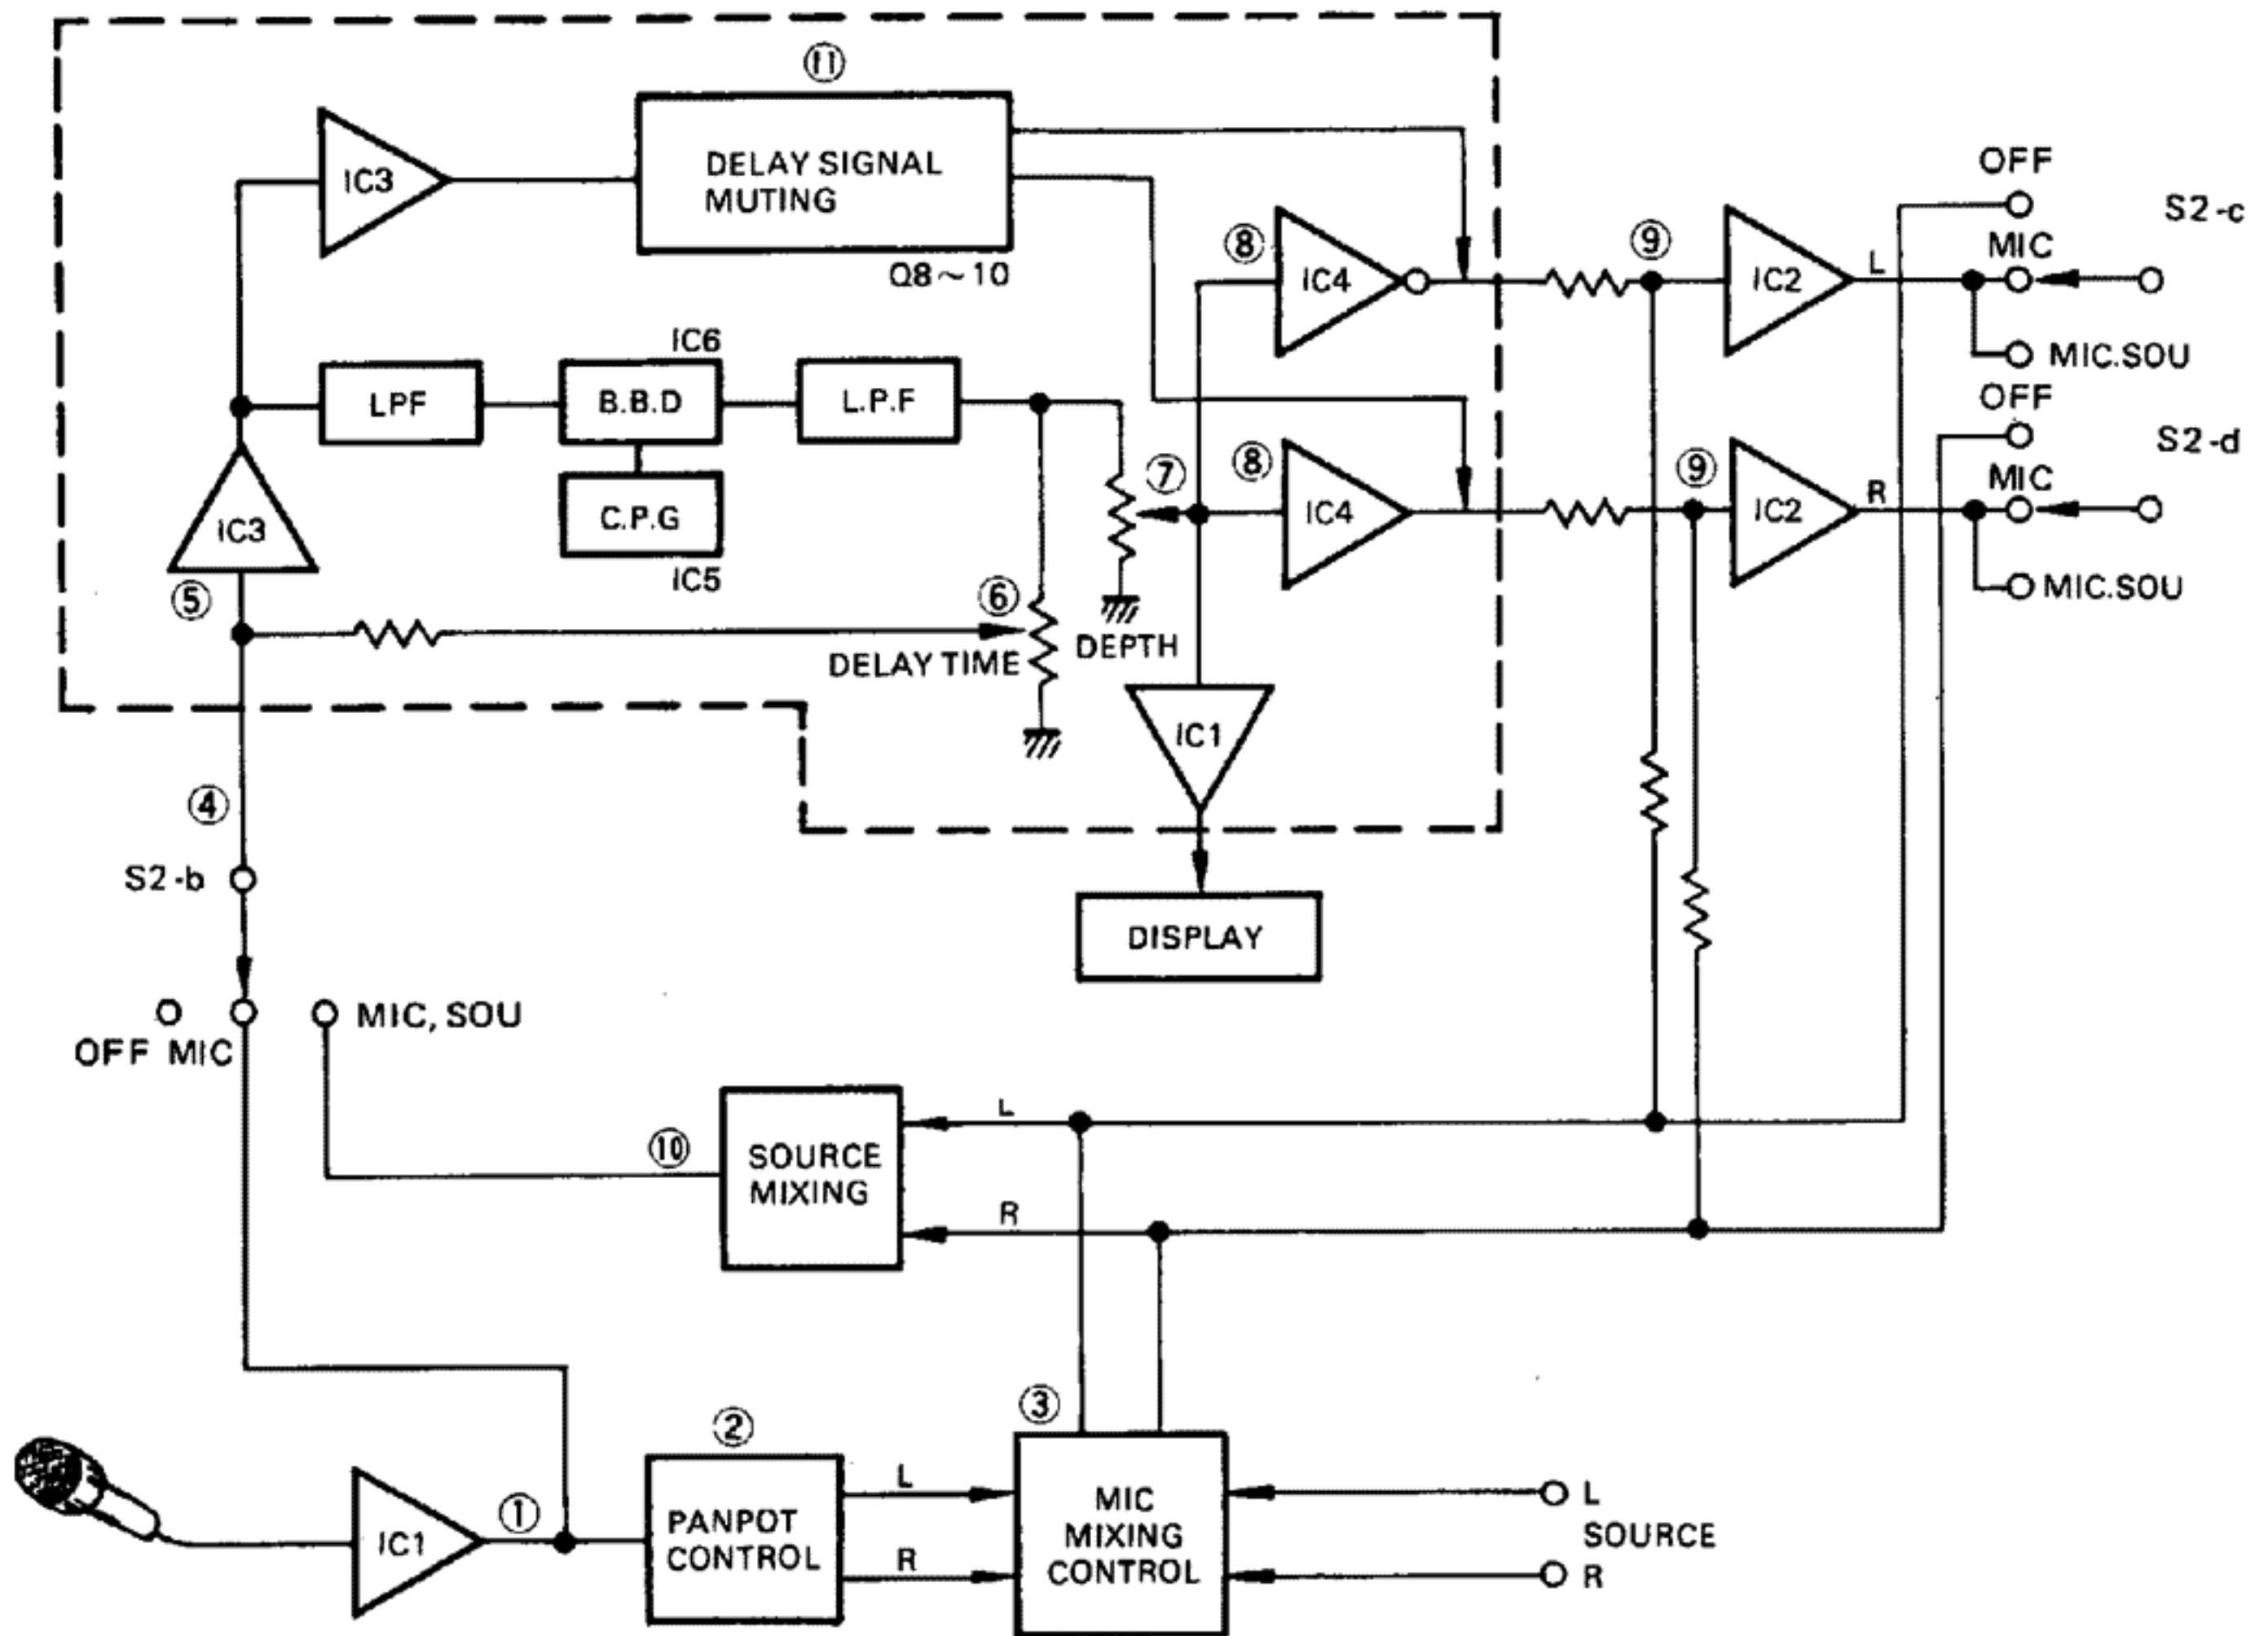

Fig. 1 < Reverberation circuit >
The reverberation circuit used in the Super Eleven has a monaural configuration using a B.B.D. (Bucket Bridge Device) and has the mixers and dividers shown in figure 1.
Figures 3 and 4 show clock pulse generator operation and its output waveforms. FETs in the B.B.D. are turned on and off sequentially according to the clock pulse signal. The delay time of each stage is  $T/2$ , and the total delay time of the B.B.D. is  $N/2f_{cp}$ , where  $f_{cp}$  (clock pulse frequency) = 40 kHz and  $N$  (number of B.B.D. elements) = 2048 in the Super Eleven. With the DELAY TIME control ( ⑥ in Fig. 1), the delay time can be doubled.